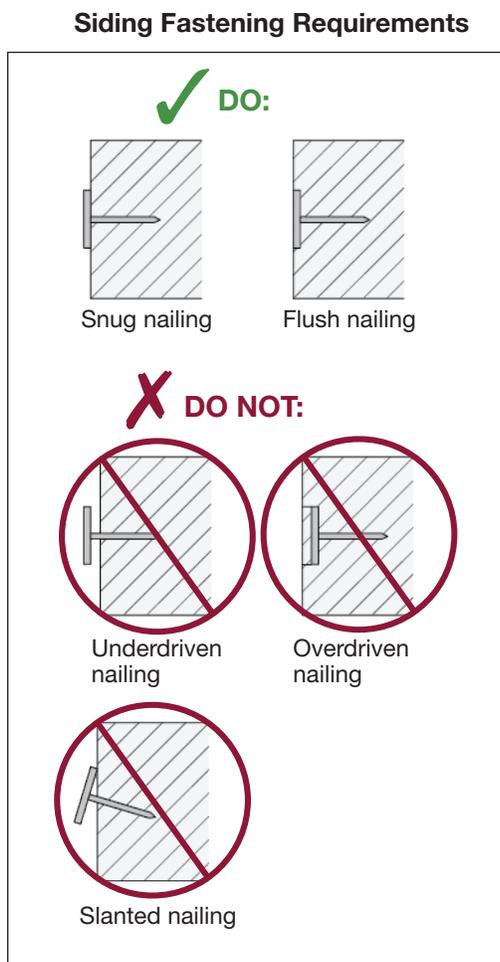

Fig. 17
- Make sure your nail gun is set to drive the nail head even/flush with the surface of the siding (**Fig. 17**)
- Follow TruExterior Siding nailing requirements (**Fig. 17 & 18**)
- Follow TruExterior Siding fastening requirements on page 19 (**Fig. 17 & 18**)
- Make sure your nail gun is set to drive the nail head even with the surface of the siding boards (**Fig. 17**)